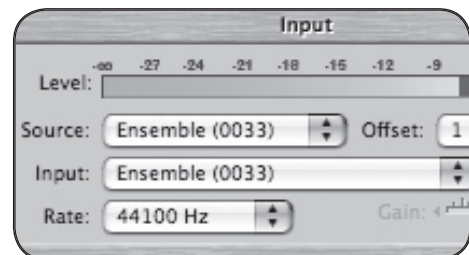

figure 27
2. Recording - Open **Tools > Voiceover** and set **Source** to **Ensemble**. (figure 27)